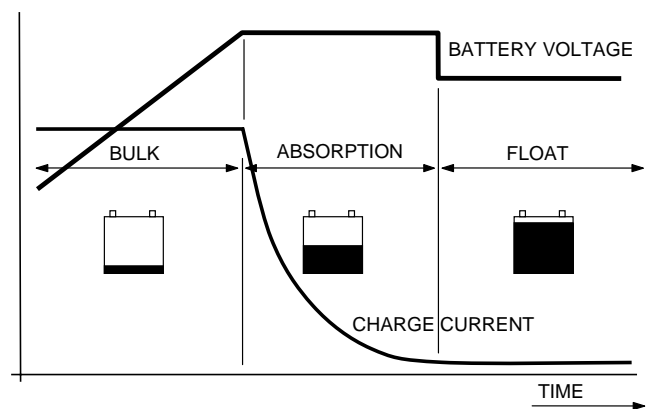

Figure 2: Three step charge system
See figure 2. The first step of the three step charge system is the BULK phase (A), in which the output current of the charging system is limited by the maximum output current of the alternator and the engine RPM. At this stage the major part of the capacity of the battery is rapidly charged. The current charges the batteries and the voltage will rise to the absorption voltage of 14.25V (12V models) or 28.5V (24V models) @ 25°C / 77°F. The duration of this phase depends on the ration of charging capacity versus battery capacity and on the degree to which the batteries were discharged to begin with.